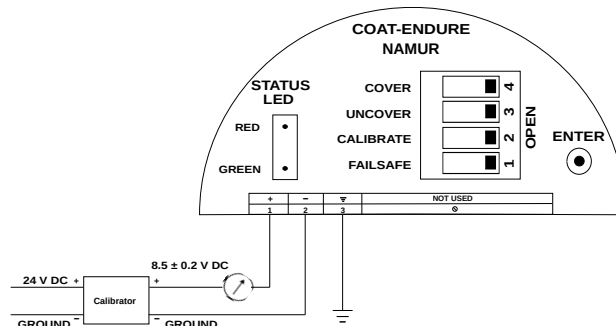

Figure 46: Electrical Connection during installation
Please refer to the Figure 46 for electrical connections while connecting the Elixir Namur in an application tank.
- Refer to given Figure 46 for Electrical Connections to power up and connect the device.